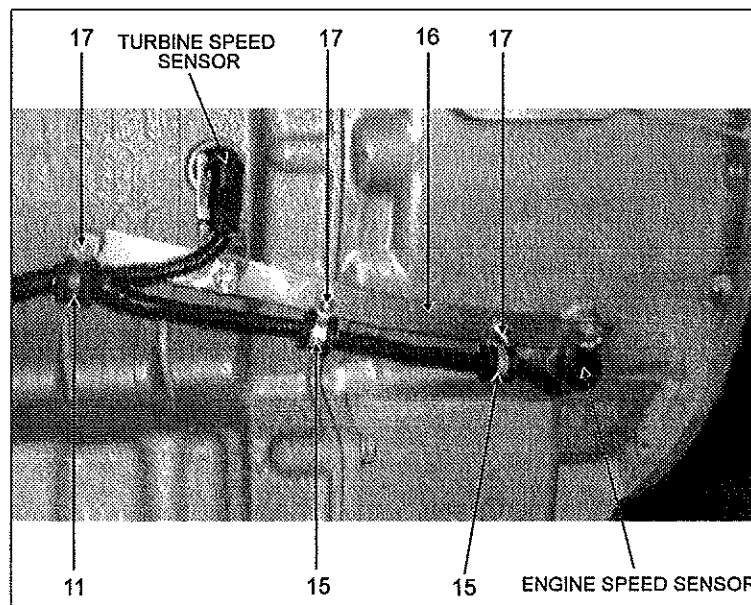

FIGURE 9
15. Remove bolt retaining engine speed sensor bracket, position retaining clip holder (16) over engine speed sensor bracket, then reinstall bolt (**Figure 9**). Do not tighten.